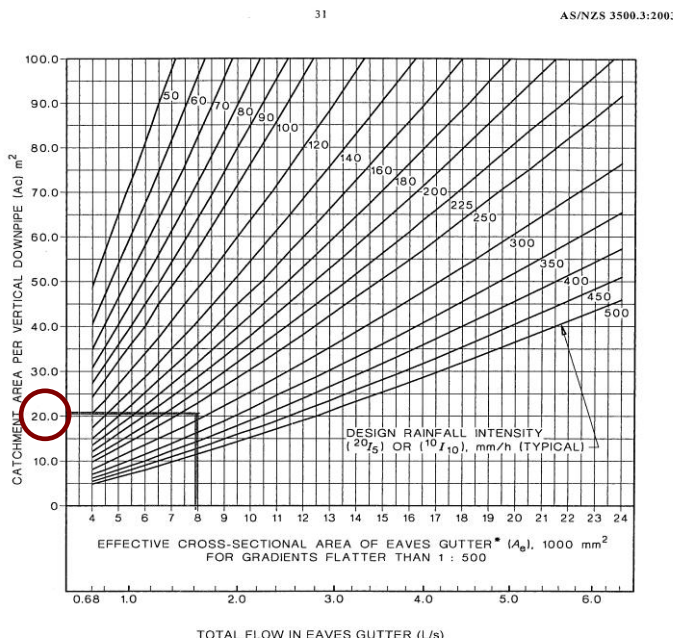

FIGURE 3.5(B) REQUIRED SIZE OF EAVES GUTTERS FOR GRADIENTS FLATTER THAN 1:500
NOTE: *The fall provided for metal fascias may be less than 1:500 therefore more downpipes will be required Refer to AS/NZS 3500.3:2003 - FIGURE 3.5(B)*
Refer: FIGURE 3.5(B) REQUIRED SIZE OF EAVES GUTTER FOR GRADIENTS FLATTER THAN 1:500.